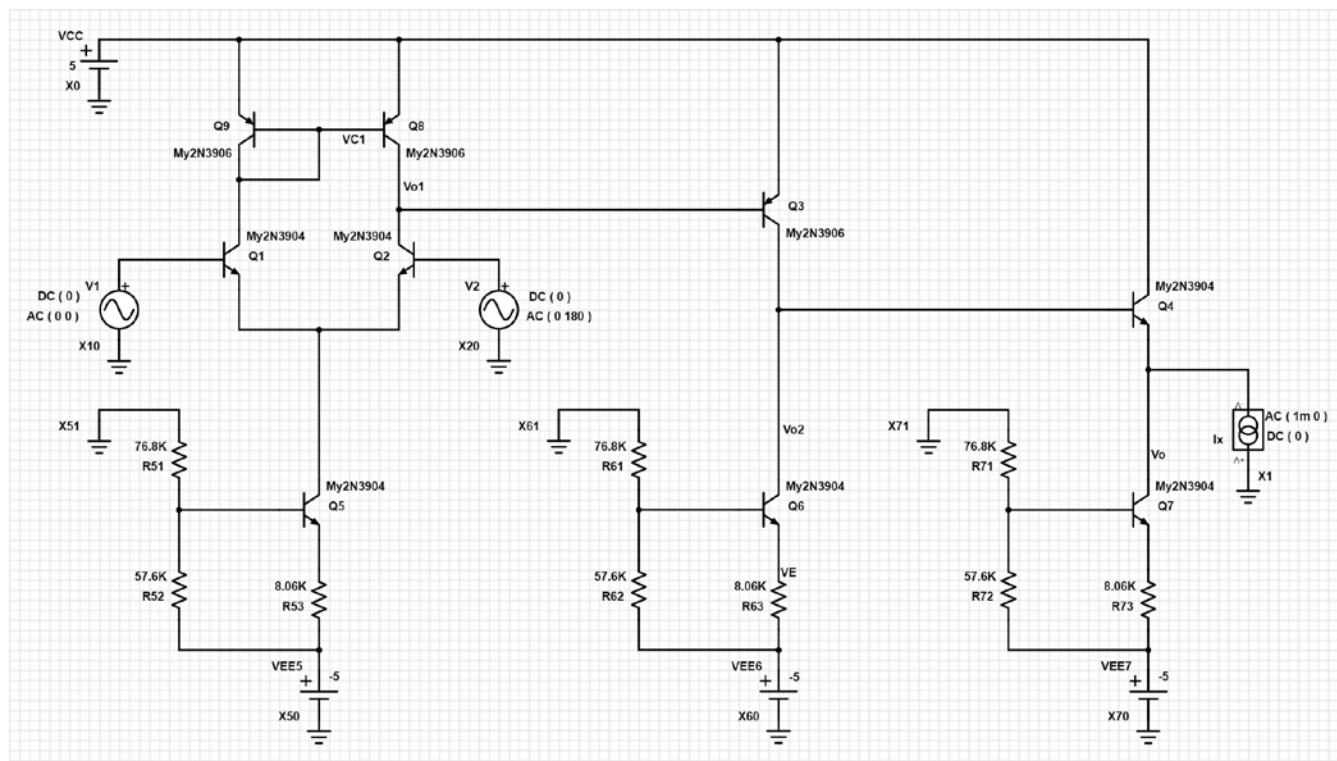

Fig. 1 Schematic diagram of the direct-coupled (DC), multi-stage operational amplifier
- 1.1 In PartSim circuit simulator, construct the OP-Amp, as shown in Fig. 1, using the differential amplifier with a current mirror load from Lab 3, and the common-emitter (CE) and common-collector (CC) amplifiers from Lab 2. Here I_x is a test current source to be used to characterize the output resistance of the Op-Amp.
- 1.2 Set the DC values of V_1 and $V_2 = 0$ V, and their AC amplitude 1 mV. Set the DC and AC values of the test current source I_x to zero. For differential mode signal, set the phases of the AC signal V_1 and V_2 to be 0° and 180° , respectively, as shown in Fig. 1. In this setting, the differential-mode signal $v_{id} = V_1 - V_2 = 1 \text{ mV} - (-1 \text{ mV}) = 2 \text{ mV}$. Conduct AC analysis to obtain the base current i_{b1} of Q1, the voltages V_{o1} , V_{o2} , and V_o at the base of Q3, the base of Q4, and the emitter of Q4, respectively. Set the sweep type in DEC with Start Frequency = 100 Hz, Stop Frequency = 100 kHz, and Total Points Per Decade = 101. Choose REAL for magnitude unit and degree (DEG) for phase unit. Record the simulated magnitudes and phases of i_{b1} , V_{o1} , V_{o2} , and V_o in the sheet “Step 1.2” of the Excel file “Lab 4 – Feedback Amplifier.xlsx”.